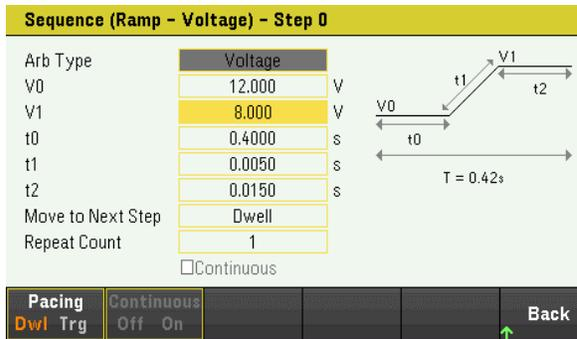

Figure 8. Change V1 from 4.5V to 8V for Step 0
- Select each one of the waveform steps and press **Edit** to modify the waveform parameter as required. Figure 8 – 11 shows changes to each waveform step to create the Starting Profile waveform level 1 of Table 3. A two-second delay was also added in Step 3 before repeating the cycle to comply with the ISO16750 requirement.